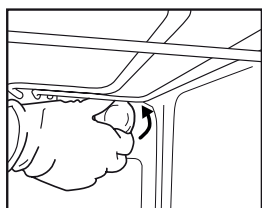
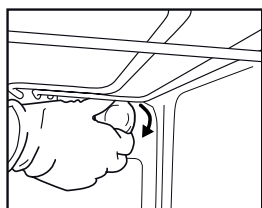

Fig.6
Fig.7
2. Unscrew the lamp cover (Fig. 6), replace the lamp (see note for lamp type) and screw the lamp cover back on (Fig. 7).